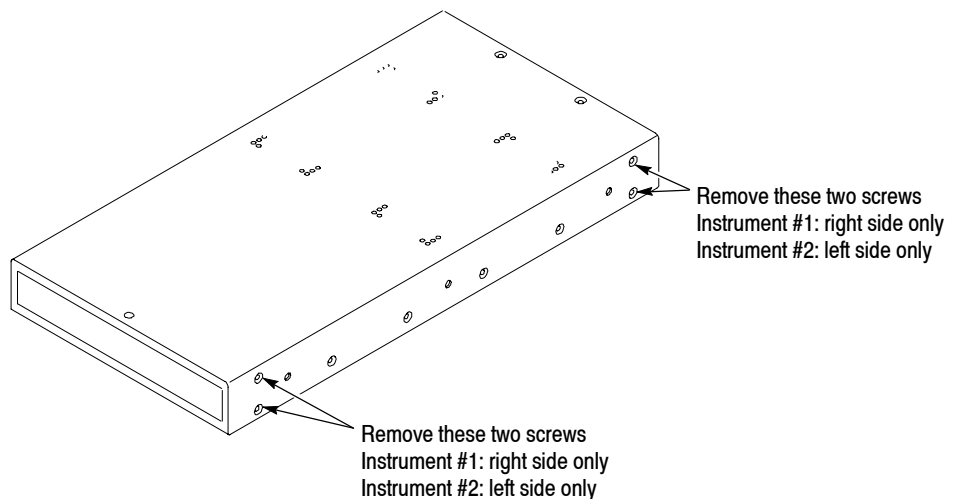

Figure 2: Removing the cover screws (AVDC100 only)
1. Remove the four cover screws from the right side of instrument #1 as shown in Figure 2. You will not use these removed screws during the TVF16 installation.
1. Remove the four cover screws from the left side of instrument #2 as shown in Figure 2. You will not use these removed screws during the TVF16 installation.